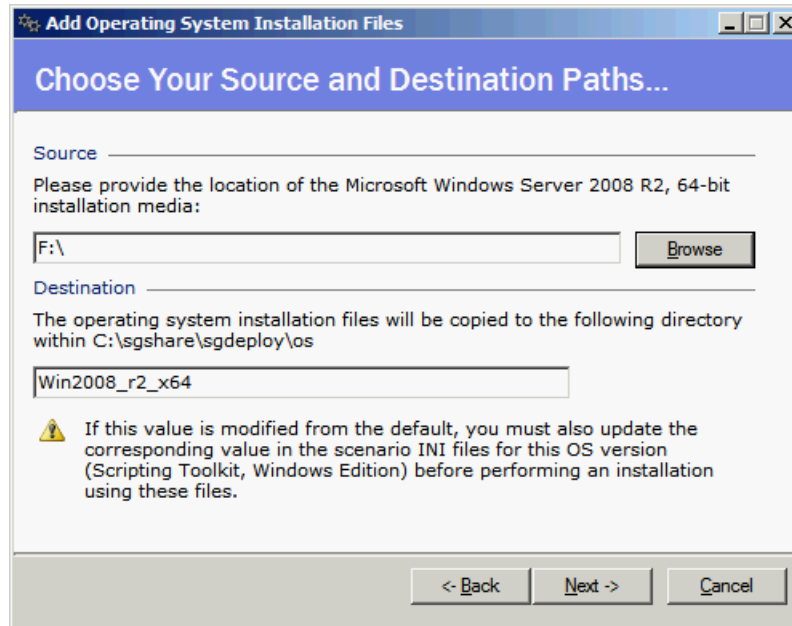

Figure 7-48 Define the source and target
4. Insert the correct OS installation media or select the folder that contains the installation files for the source, as shown in Figure 7-48 on page 352. If necessary, modify the target and click **Next**.